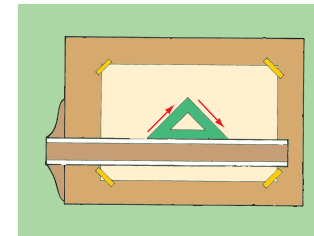

Figure 3-29. Draw sloping lines using a triangle, as shown here.
- When using a 45° or 30°/60° triangle, draw lines in the directions shown by the arrows in **Figure 3-29**.